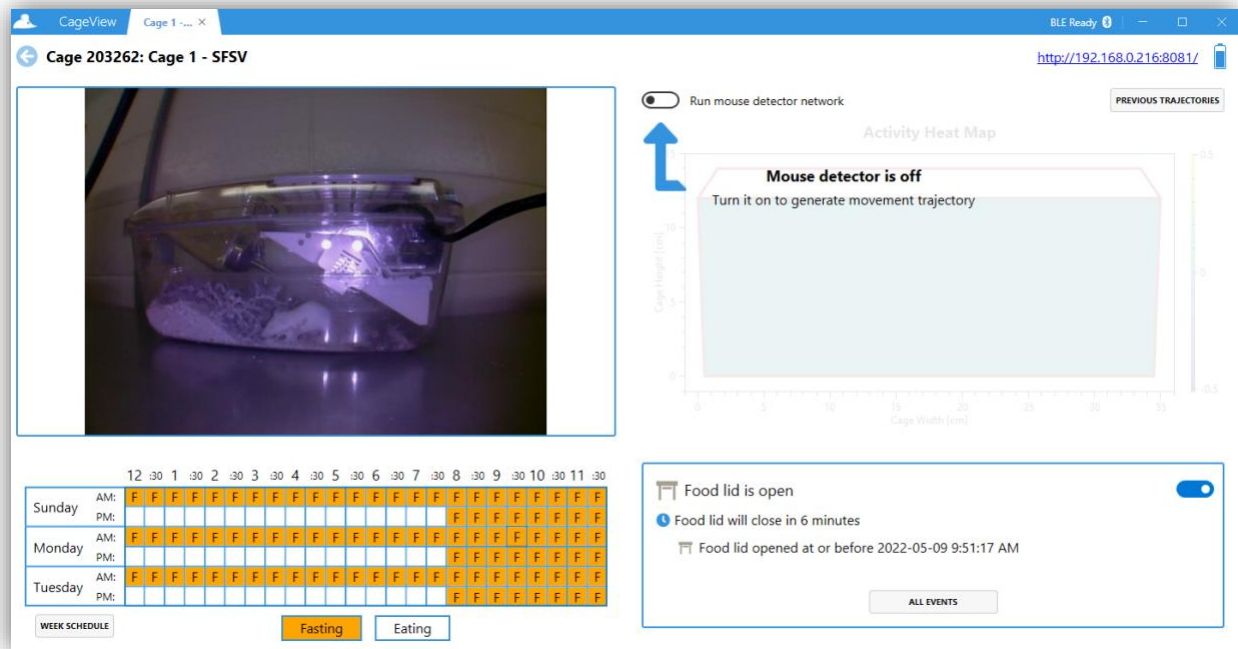

Figure 22. CageView - food lid event added
5.2.9. When a diet schedule is selected, the user can either click the "**Load**" button or the "**Delete**" button, represented by a trash bin icon. The result is shown in **Figure 22**.